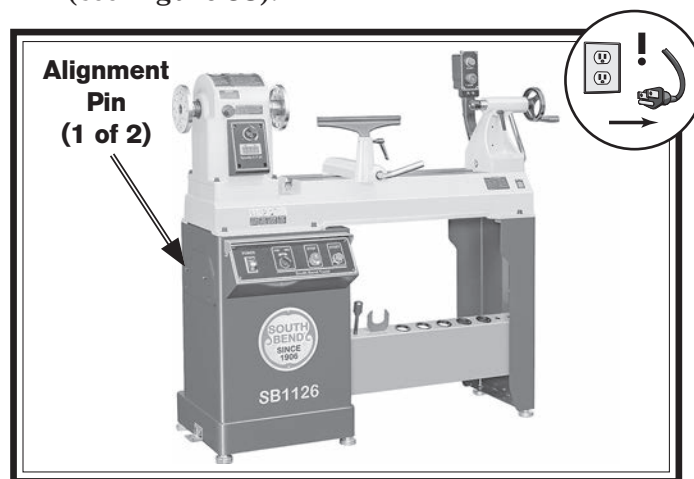

Figure 38. Location of alignment pins.
2. With help from an additional person, remove bed extension (if installed) and position on alignment pins on outboard end of machine (see **Figure 38**).